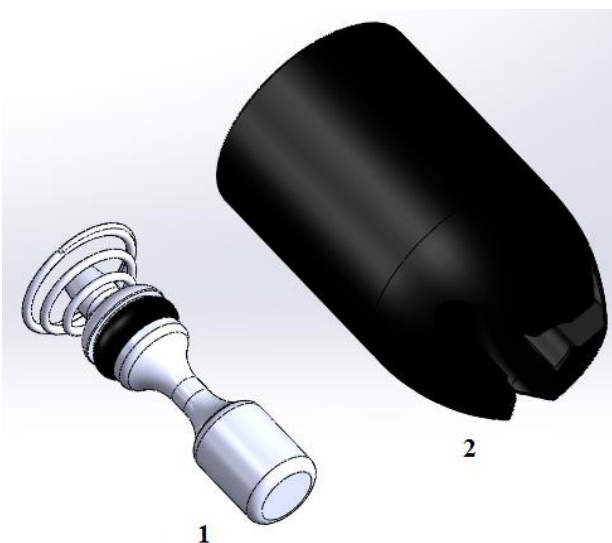

Figure 15
3. Then press the glass vertically against the valve house until the valve piston (Figure 15, part 1) moves upwards, thereby opening the valveFigure12B.
The valve consists of two main parts see Figure 15, the Valve Piston (1) and the Valve House (2).